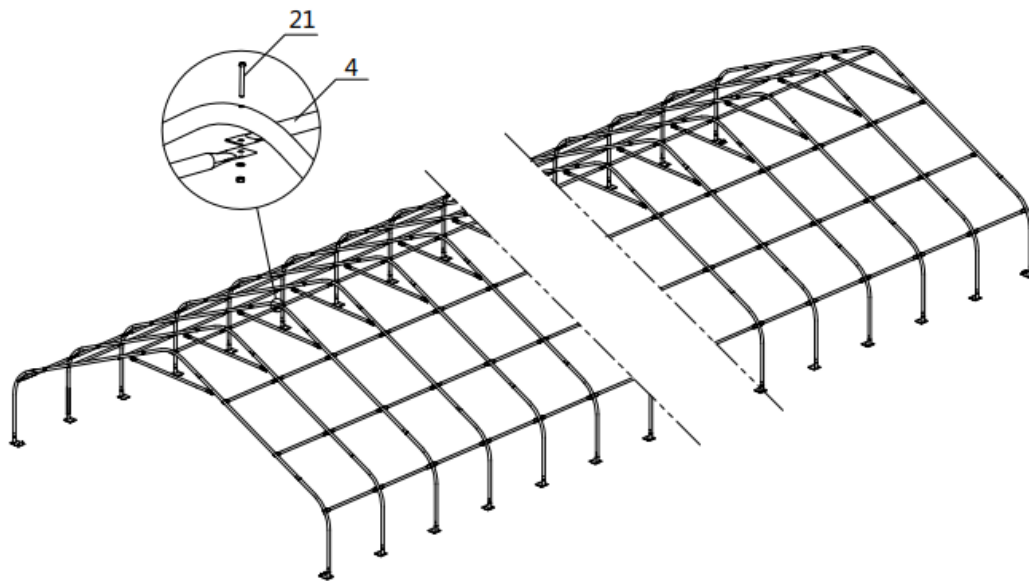

Figure 6
- Repeat above step to put up all other trusses (from 2th to 24th truss), and connect all purlin. Now the whole structure is completely up. (refer to figure 6)